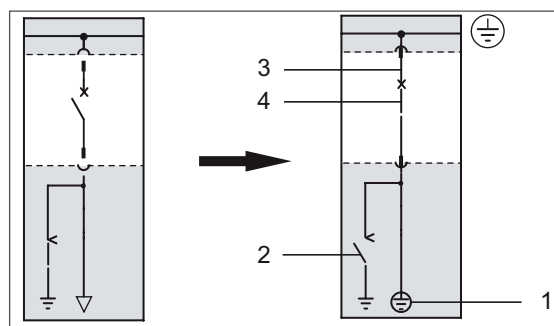

Figure 60
1. Connect the earthing device to the cable compartment (Figure 60, 1).
2. Switch the earthing switch OFF (2).
3. Move the truck to the service position (3).
4. Switch circuit breaker ON (4).